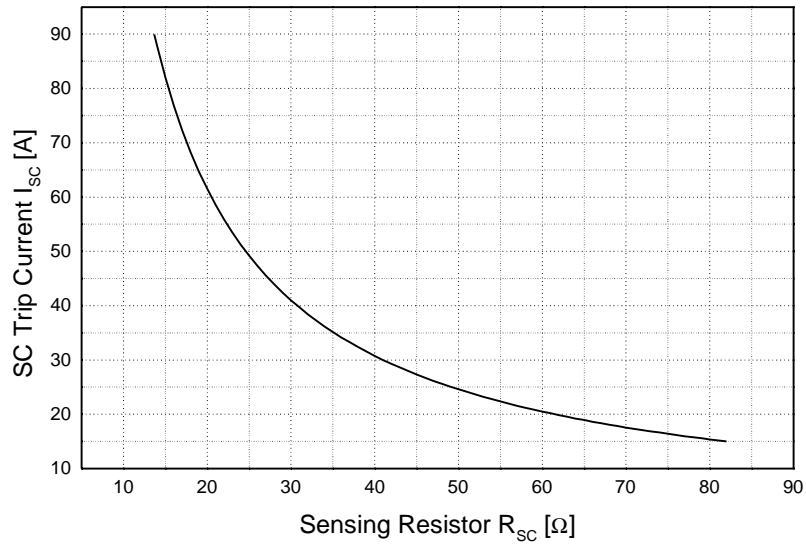

Fig. 8. Relationship between Sensing Resistor and SC Trip Current for Short-Circuit Protection
- Short-circuit current protection is functioning only at the low-sides. It would be recommended that the value of the external sensing resistor (R_{SC}) should be selected around 56 Ω in order to make the SC trip-level of about 20A. Please refer to Fig. 8 which shows the current sensing characteristics according to sensing resistor R_{SC} .